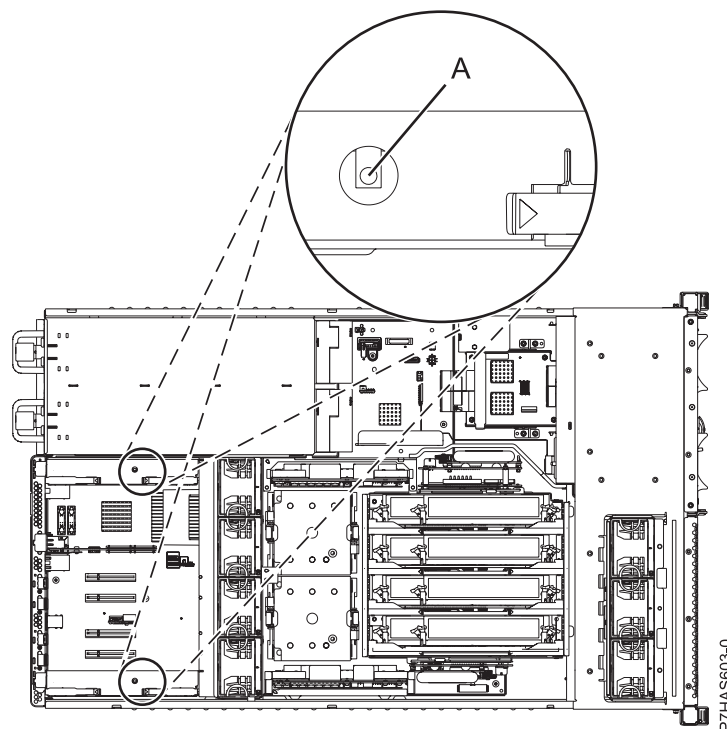

Figure 4. GX adapter LEDs
Figure 4 shows the LEDs (A) associated with the GX adapters.